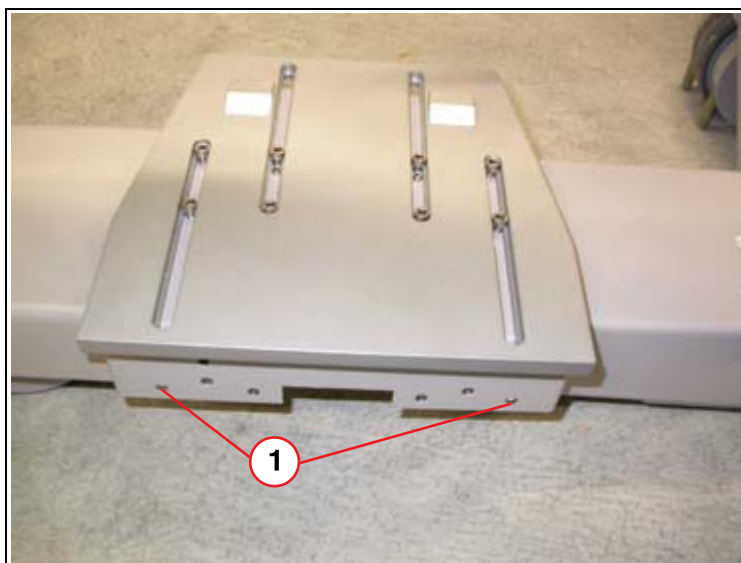

Fig. 11: Lower part
- Secure the bottom part with the Allen screw (1/Fig. 11 / p. 16).